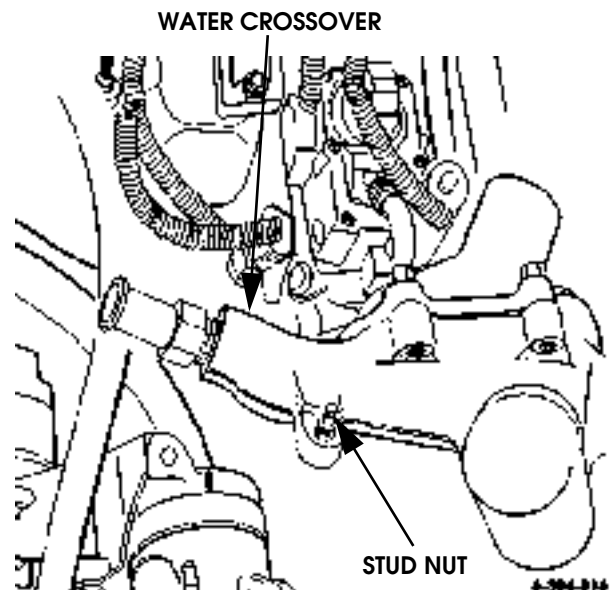

Figure 4-31: Water Crossover Attaching Hardware
7. Remove water crossover attaching bolts/nuts (Figure 4-31).